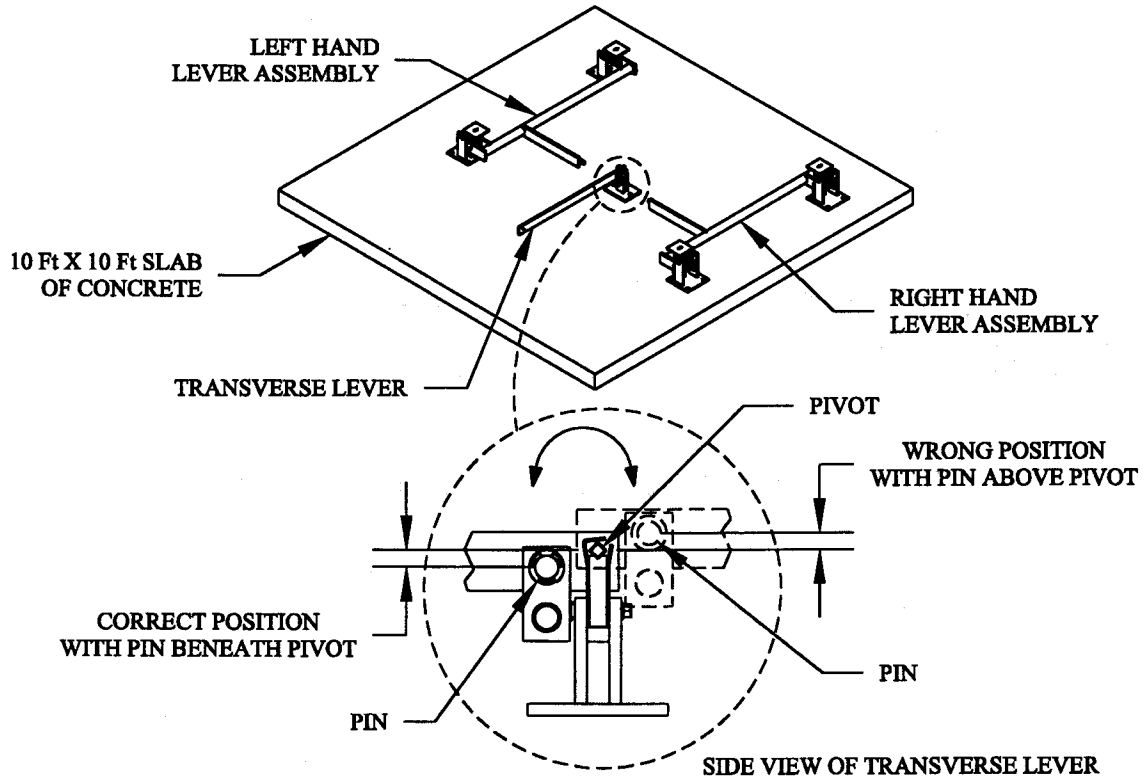

FIG. 2
STEP 2. Lay the pre-assembled lever systems out on the concrete pad. See Fig. 2. Make certain transverse lever is in correct position and not rotated 180 degrees the wrong way about the pivot.